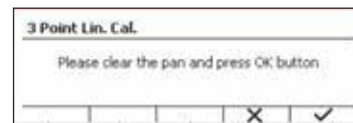

Figure 15
- Press the softkey corresponding to the ✓ icon to initiate Linearity Calibration. (See Figure 15)